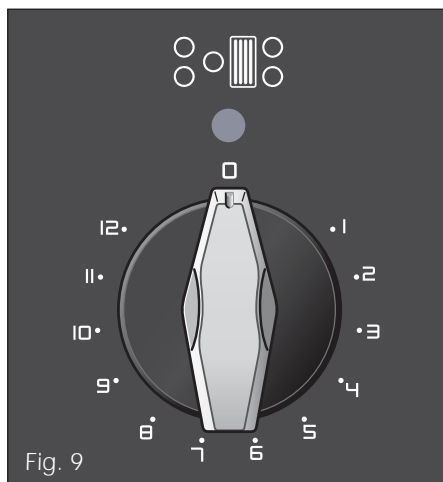

Fig. 9
- Switch the griddle on by turning the power setting knob (fig. 9) to the maximum position (11-12) for about 15 minutes to remove residual working greases.